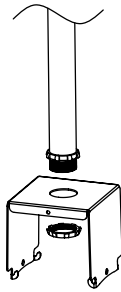

FIGURE 2
1. Mount the bracket on 3/4"NPT (Figure 2);